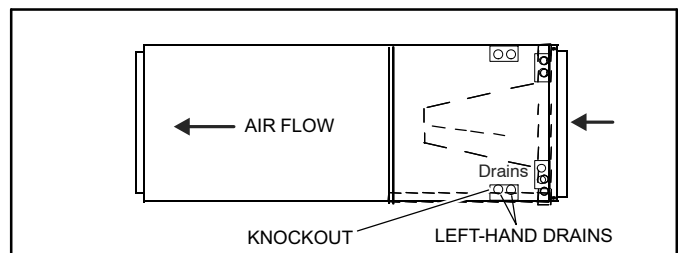

Figure 3. Left-Hand Discharge Configuration
4. The horizontal configuration is shown in figure 3.